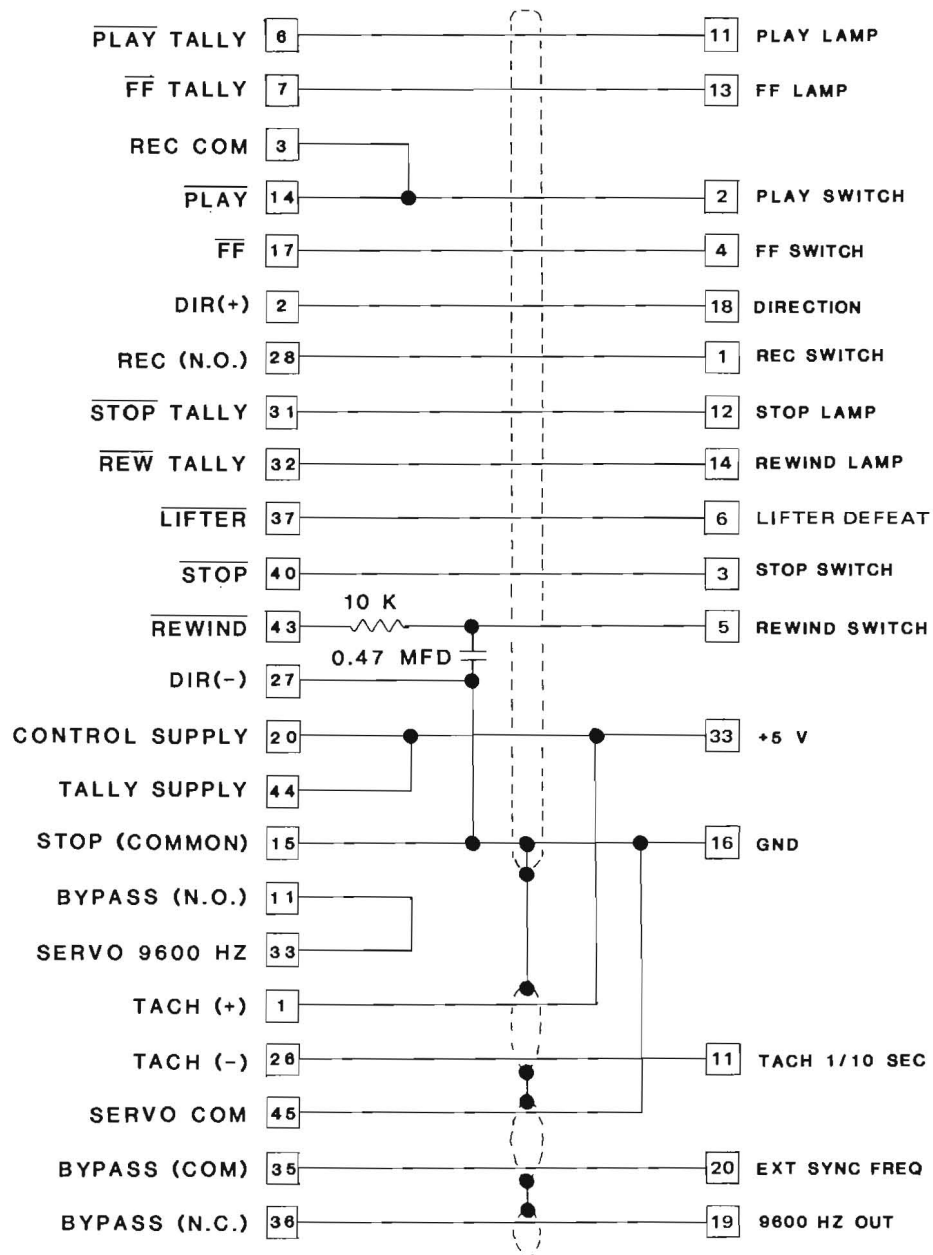
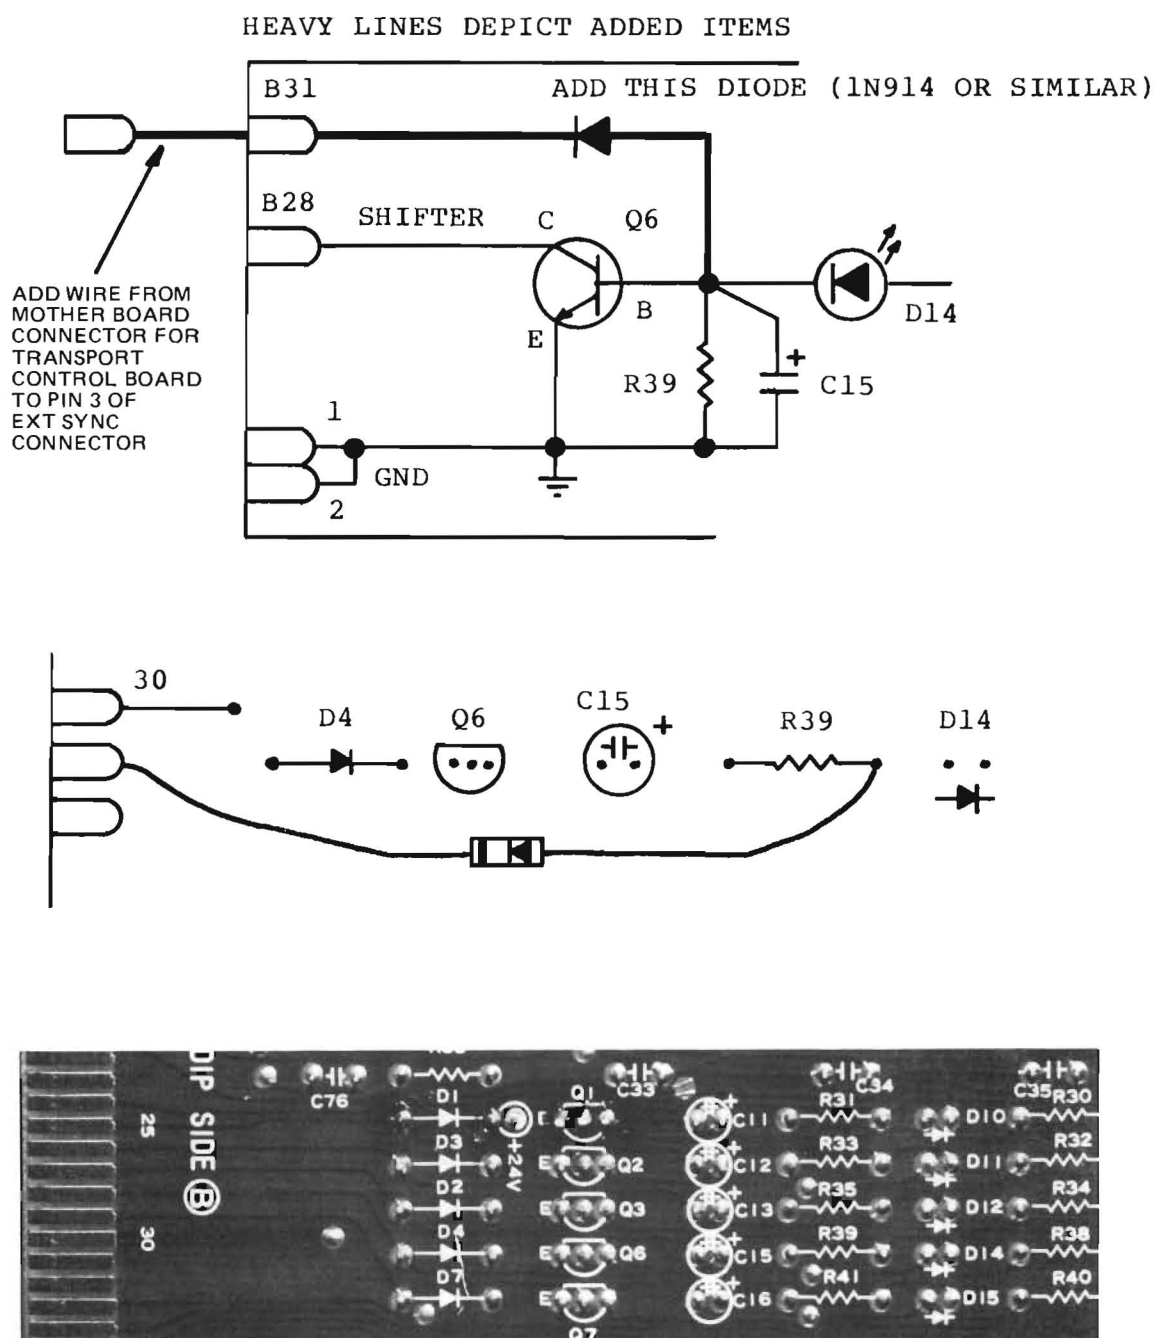

FIGURE 6-3. DETAILS OF INTERFACE CABLE FOR MATING
FIGURE 6-4. ADDING A DIODE TO MTR-10 TRANSPORT CONTROL BOARD (BOARD A) FOR PROPER MUTE/UNMUTE OPERATION
Figure 6-3 illustrates the cable which is required to interface the BTX SHADOW (Model 4700) synchronizer's TRANSPORT CONTROL connector with the MTR-10 PARALLEL I/O connector. Figure 6-4 shows the minor modification which is required on the MTR-10 TRANSPORT CONTROL circuit board. To interface the MTR-10 to most synchronizer units, you must perform the following steps:
1. There is a timing fault on the output of the SHADOW which can result in the MTR-10's reverse play mode being unintentionally enabled. This can be solved by trying an R/C circuit to the rewind command line, as illustrated in the interconnect cable diagram (Figure 6-3).
Refer to Figure 6-4. One suggestion for accomplishing the diode modification is to solder the diode between the base of Q6 (where it joins R39, C15, and D14) and a spare pin on the TRANSPORT CONTROL board (such as pin 31). Then attach a wire from the point on the mother board opposite that pin (e.g., pin B31) on the TRANSPORT CONTROL board to pin 6 of the PARALLEL I/O connector.